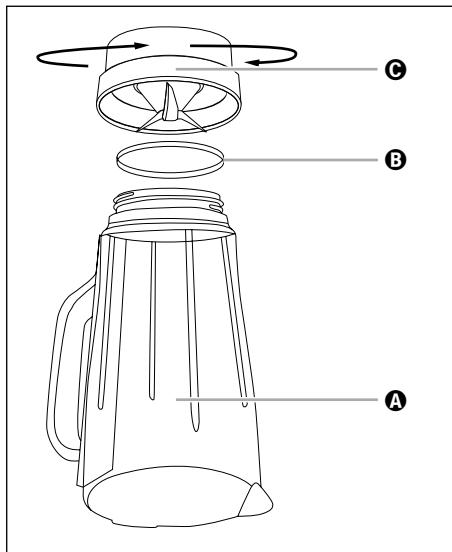

Fig. 4
- 2) Turn the appliance upside down and turn the plastic part **C** of the blender **3** anticlockwise so that it can be detached from the glass part **A** of the blender attachment **3** (see fig. 4).